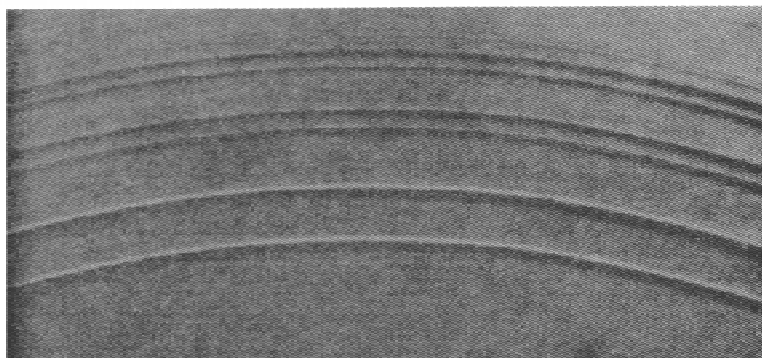

Figure 2-3.—Example of pack slip.
Pack slip happens when the tape is loosely wound on the reel and is exposed to excessive vibration or too much heat. This causes the tape to shift (side-to-side), causing *steps* in the tape pack. When a tape reel with pack slip is used, the magnetic tape will unwind unevenly and rub against the sides of the tape reel or the recorder's tape guides. This can damage the magnetic tape and cause oxide shedding. Figure 2-3 shows an example of pack slip.
- Q-24. You notice steps in the tape pack such as those in figure 2-3. What causes this and how does it damage the magnetic tape?*